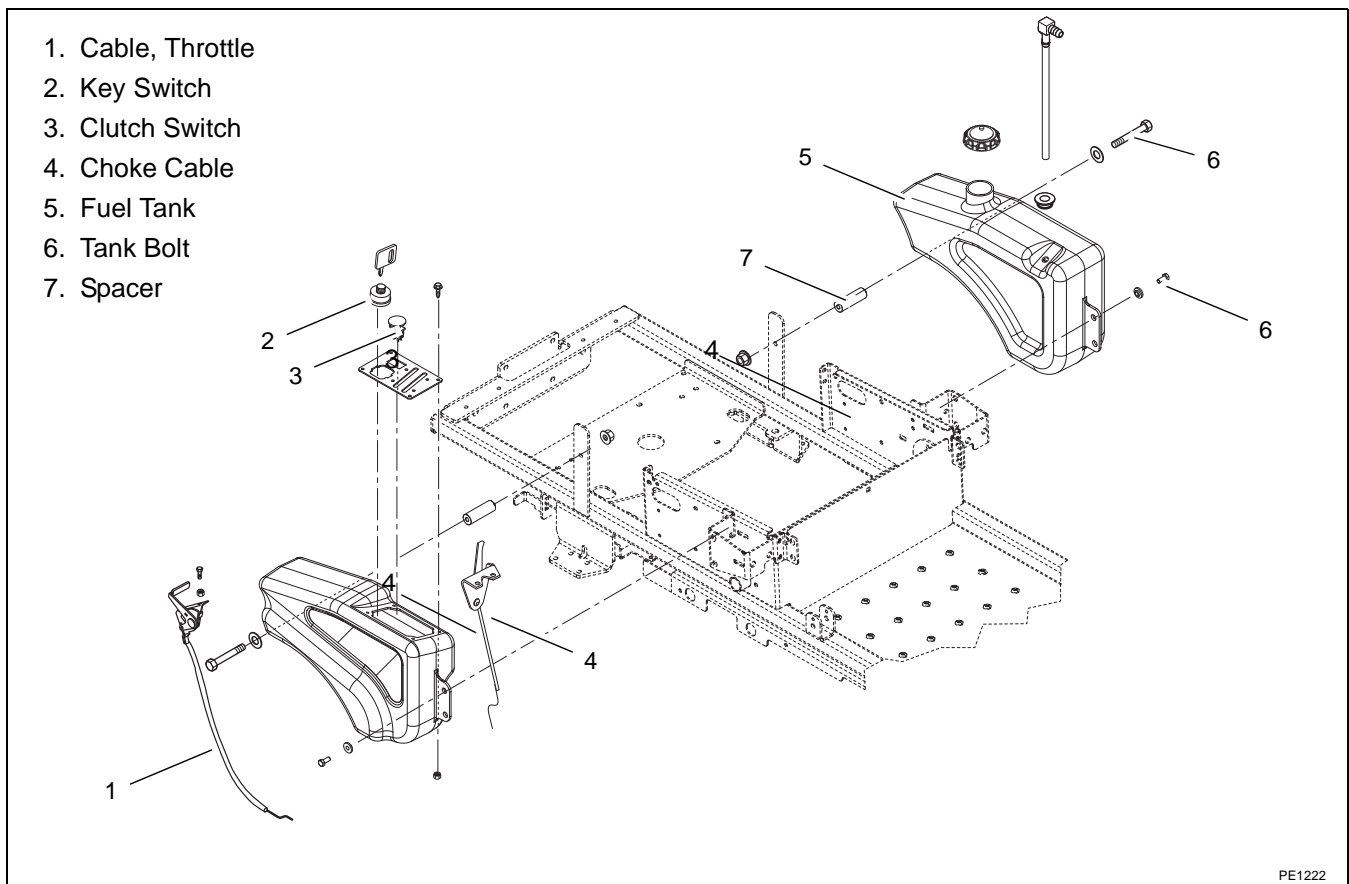

Figure 25
1. Drain gas from tank (5, Figure 25).